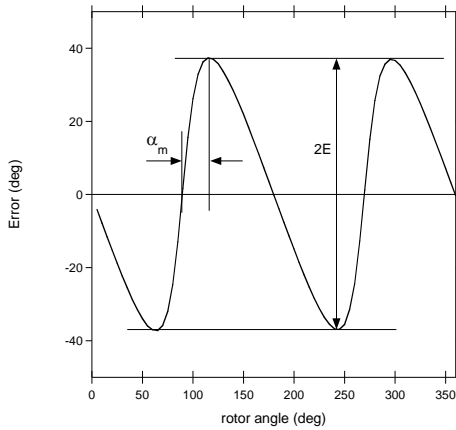

Figure 30: Error Curve in Side-Shaft Configuration with BCT = 0
The k ratio depends on the magnet geometry and distance to the sensor. If the k ratio does not equal 1, the sensor output response is nonlinear with respect to the mechanical angle. The error curve has the shape of a double sinewave (see Figure 30). E is the amplitude of this error.
Next, plot the error curve (the MA600’s output minus the real mechanical position vs. the real mechanical position) and extract two parameters: the maximum error (E), and the position of the maximum with respect to a zero crossing (a_m) (see Figure 30). The k ratio can be calculated with Equation (10):
Figure 30 shows the error curve.